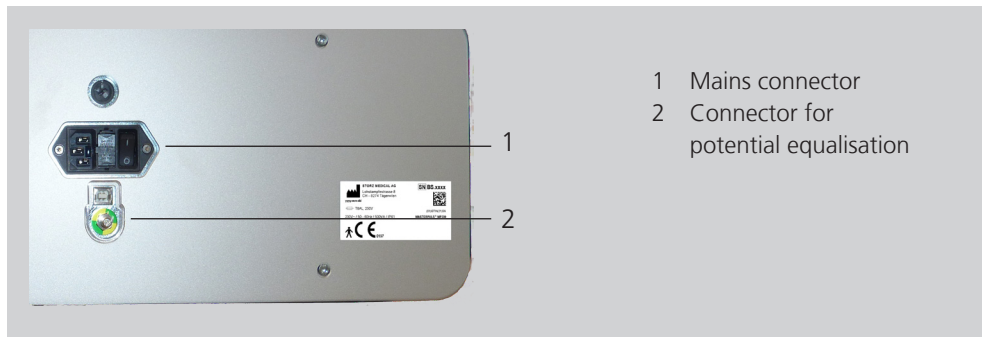

Fig. 3-7 Connecting the electrical power supply
At the rear side of the device a connection of a potential equalisation (Fig. 3-7/2) is available if due to national regulations or room class a connection is required.
- Connect the cable for the potential equalisation to the PE connector of the MASTERPULS MP200 (Fig. 3-7/2) and connect it to your PE connector.